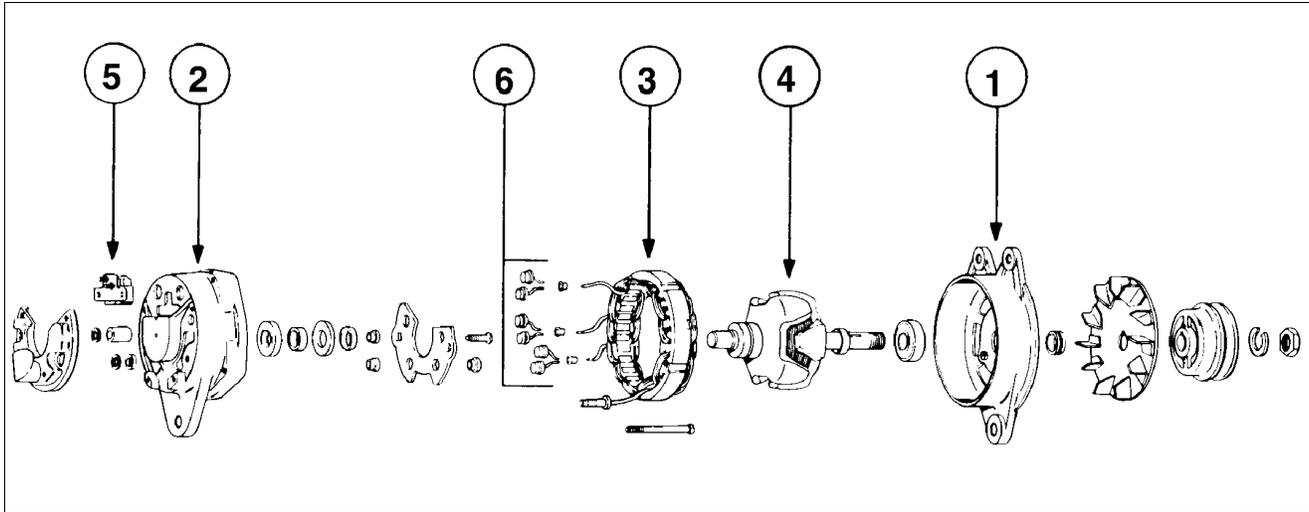

Figure 24-1. Exploded View of Electrosystems Alternator
**B. 90 Amp Electrosystems, Inc. (ESI), Alternator System (Refer to Figure 24-1)**